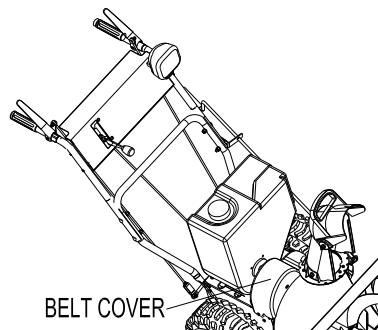

FIG 28
**6.11.1** Loosen bolts and remove the belt cover. (FIG 28)